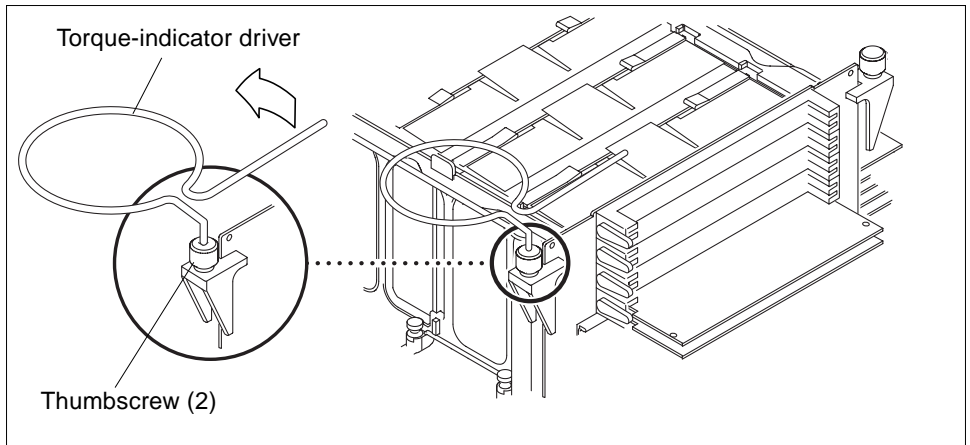

FIGURE 9-9 Removing the Memory Riser Assembly (Sheet 1 of 2)
- a. Using the short leg of the torque-indicator driver, loosen the thumbscrews by turning each screw one turn in a counter-clockwise direction (FIGURE 9-9).